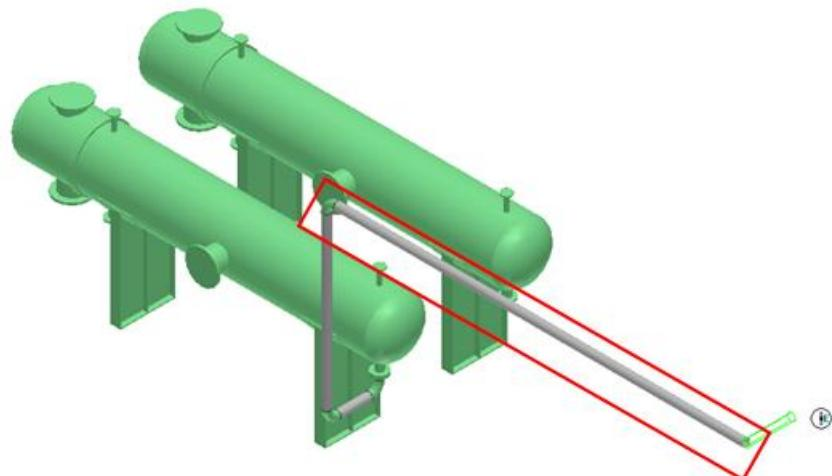

Figure 2.34: Placed Pipe
36. Now, on the **Route Pipe** ribbon, key in **20 ft** in the **Length** drop-down list and use SmartSketch to locate the **N** glyph. Click in the graphic view to place the pipe, as shown in Figure 2.34.